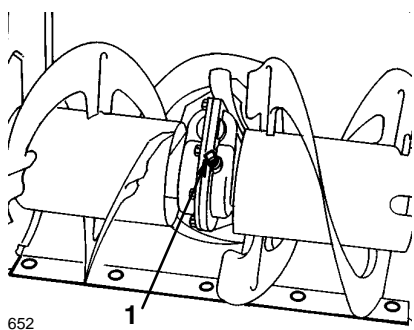

Figure 21
3. Clean the area around the pipe plug (Fig. 21).
4. Remove the pipe plug from the gear box (Fig. 21).